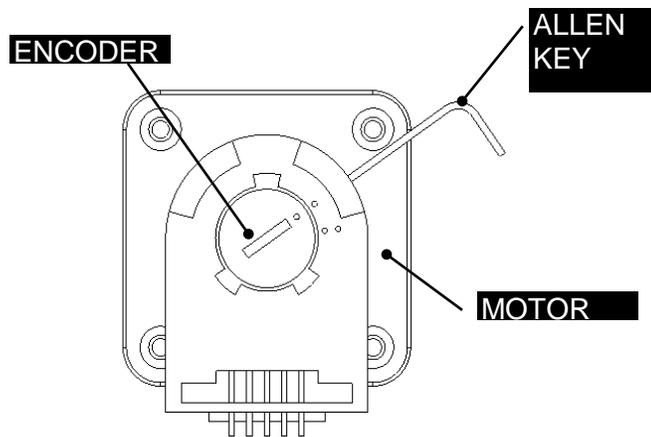

Figure 9-15: Removing the Encoder
2. Put an Allen key into the encoder and by place an upward force on as shown in Figure 9-15 to remove the encoder.